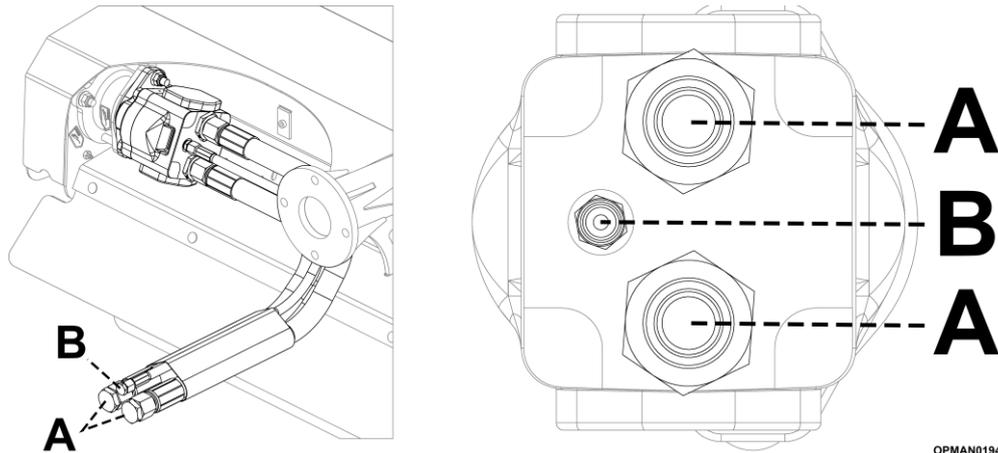

Figure 3.15
With reference to Figure 3.15, Powerdrive Pro flail head attachments hydraulic motors feature two large 1" hydraulic hoses and one 3/8" hydraulic hose to connect to the reach arm base unit. The two 1" hydraulic hoses (A) from the attachment are for the main pressure and return hydraulic oil supply hoses to the attachment hydraulic motor and the single, smaller 3/8" hydraulic hose (B) is a "case drain" hydraulic hose to protect the hydraulic motor in use.